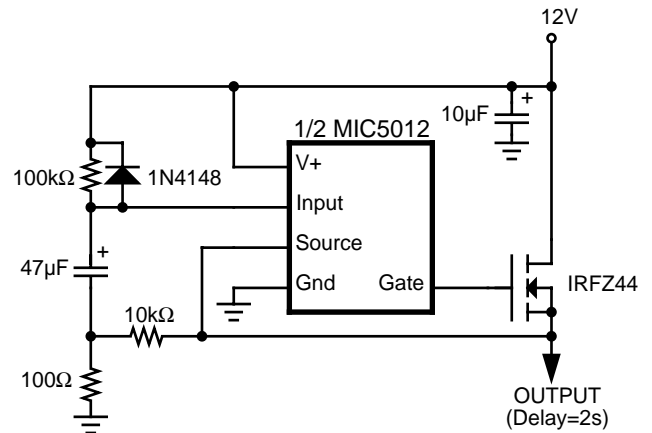

Figure 7. 30 Ampere Time-Delay Relay
**Time-Delay Relay** (Figure 7). The MIC5012 forms the basis of a simple time-delay relay. As shown, the delay commences when power is applied, but the 100k $\Omega$ /1N4148 could be independently driven from an external source such as a switch or another high-side driver to give a delay relative to some other event in the system. Hysteresis has been added to guarantee clean switching at turn-on.